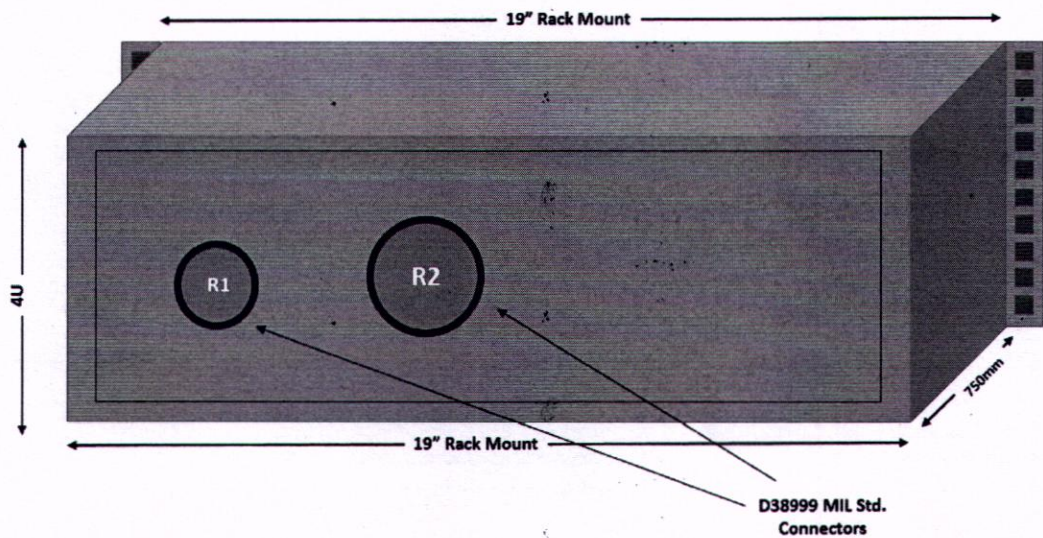

Figure 4: Rear panel of PDU2
- Rear panel shall be installed with D38999 connectors as shown in **Figure 4**.